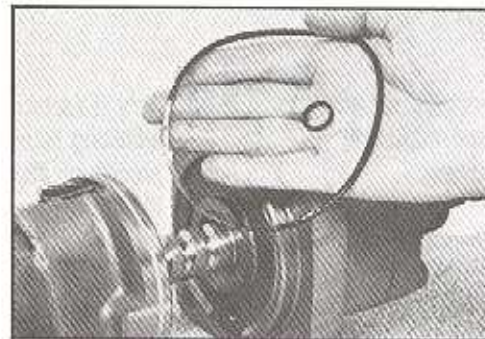

Figure 61
18. Remove worm shaft (25B), upper cover (7) adaptor (20) rack piston (35) subassembly as a unit from housing (47) and place on a cloth covered work surface, with the rack teeth up. SEE FIGURE 61. Remove and discard seal ring (21) and seal ring (19A).